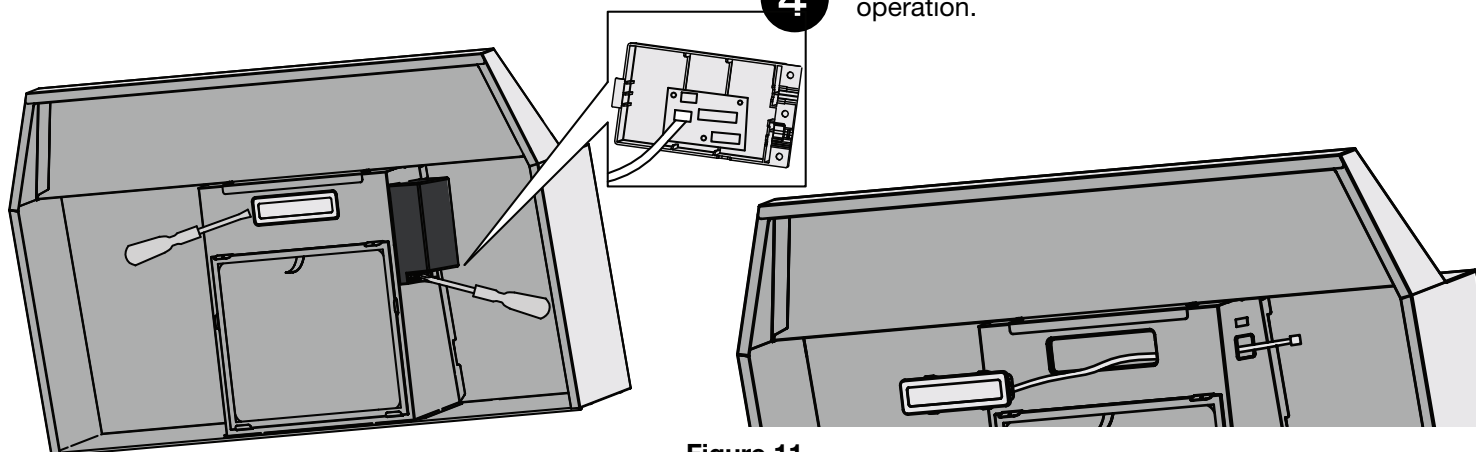

Figure 11
- 2** Open the wiring compartment with a Phillips screwdriver, and unplug the light (Figure 11). Gently use screwdriver to push down until light pops out from its location. Pull out the LED light.